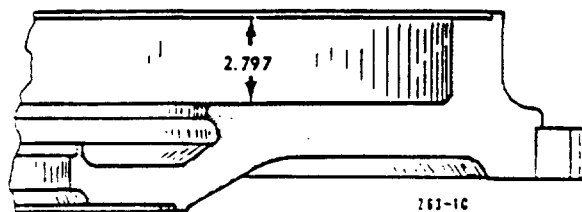

Figure 4-16. Flywheel Rubbing Surface-to-Clutch Cover Bolting Surface Dimension
7. If flywheel is warped or heat checked and surface is refinished, maintain the 2.797 inch dimension between disc surface and bolting face for proper release lever adjustment. See Figure 4-16. No more than 0.070 inch maximum may be removed by grinding.